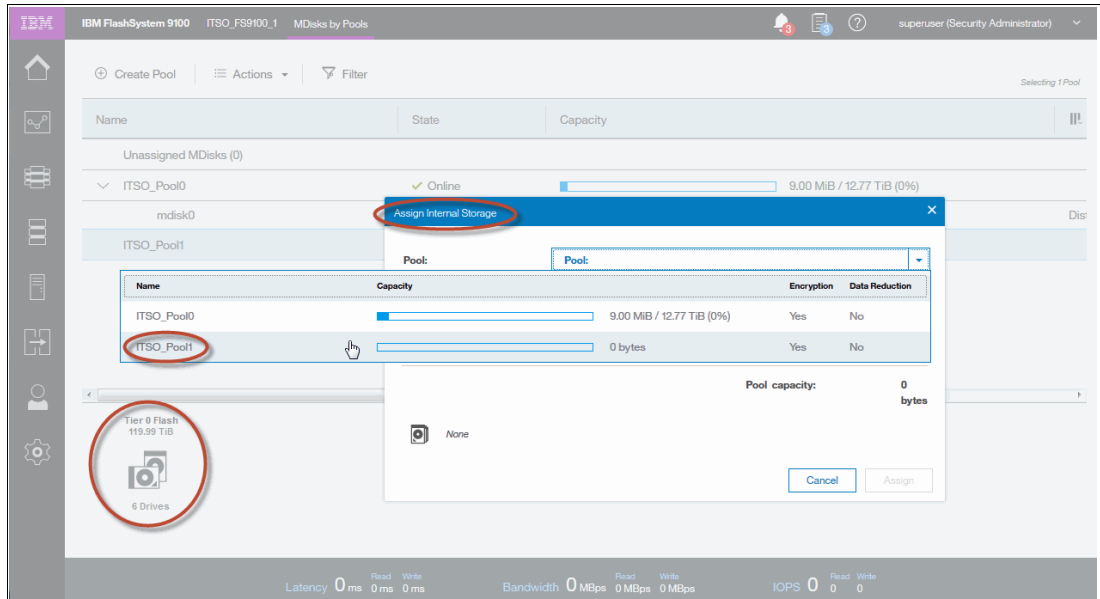

Figure 5-25 Assign internal drives to a storage pool
5. Select **Assign Internal Storage** to add the internal NVMe drives to the storage pool, as shown in Figure 5-25.